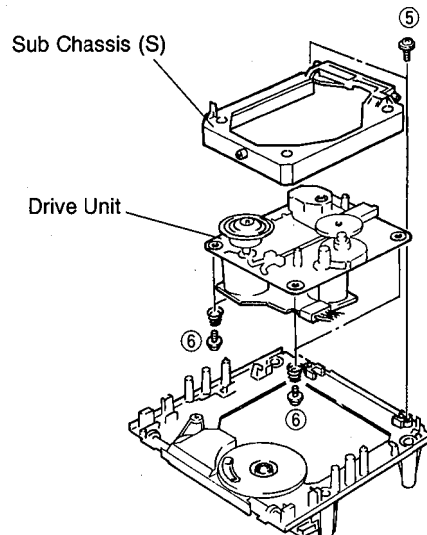

Fig. 4
- a. Remove 2 screws (⑤) in Fig. 4.
- b. Remove 4 screws (⑥) and then remove the Drive Unit in Fig. 4.